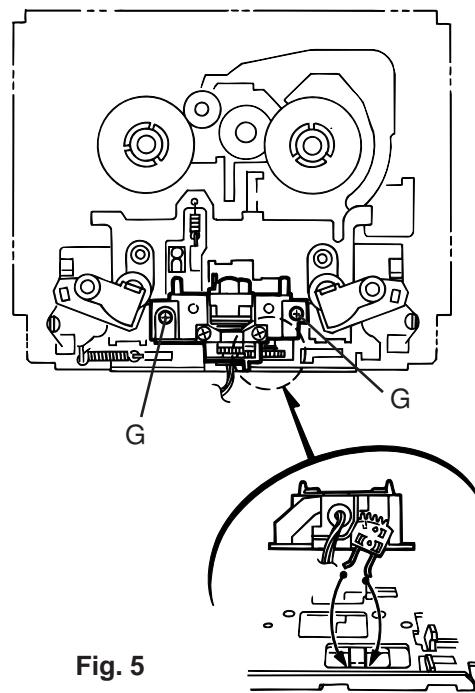

Fig. 5
■ Detaching the mechanism (Fig. 5 to 11)